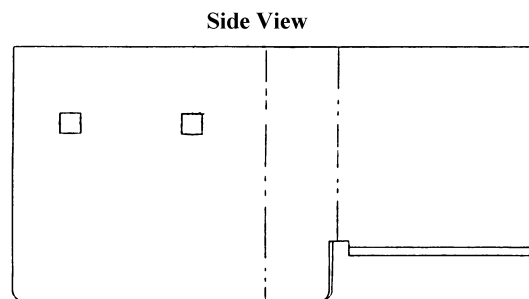

Figure 2
3. Align the two square holes at the top of the lock latch with the two holes from which you removed the carriage bolts in step 1. (See figure 2 below.)
3. Place the assembly on the base of the vender next to the door roller as shown in figure 2. Ensure there is no interference with the roller and that there is enough clearance on the right side (near the cabinet flange) to install the hex nut. Make sure the bottom of the bracket rests on the base plate.